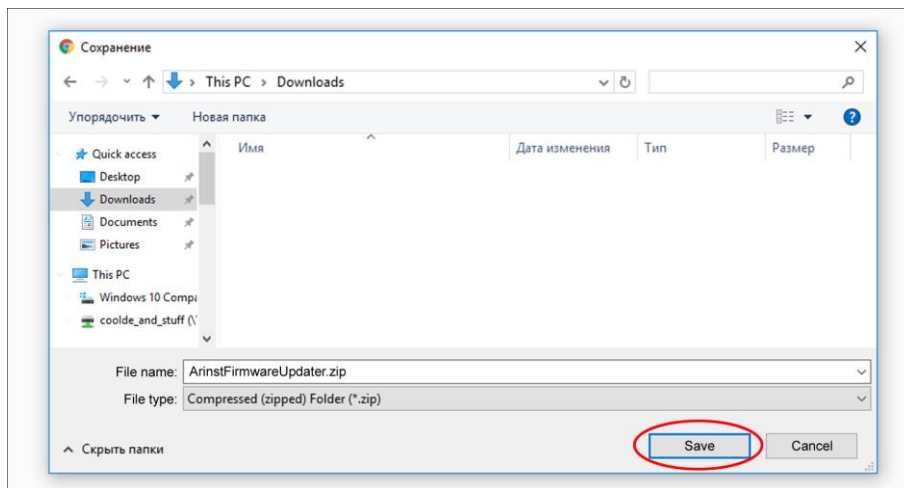

Figure A1.2 - Saving the downloaded file
1.2. Specify the path where the compressed (archive) installer file should be downloaded and click **Save** (Figure A1.2).